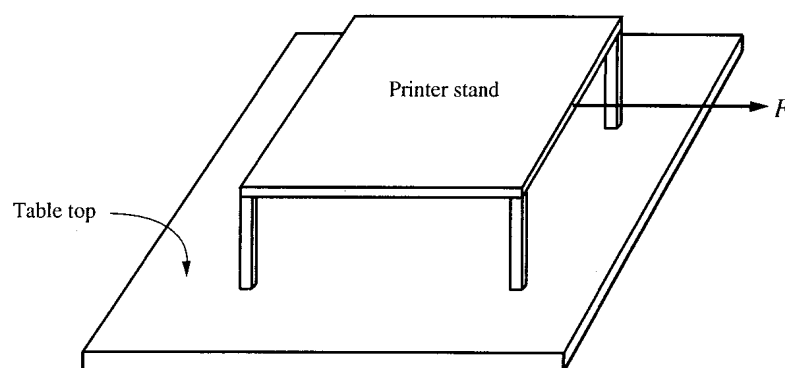

Fig. 11-8
**Problem 11.18.** A printer stand having four solid aluminum legs is firmly epoxied to the top of a rigid table. Each leg has cross-sectional area  $A = 5.0 \text{ cm}^2$  and height  $L = 10.0 \text{ cm}$ . A student, not realizing it is epoxied, tries to move the stand by pulling horizontally at the middle of one edge, as shown in Fig. 11-8. The student pulls harder and harder until he exerts a force of 160 N. Assuming the epoxy holds, how far will the top of the stand move?